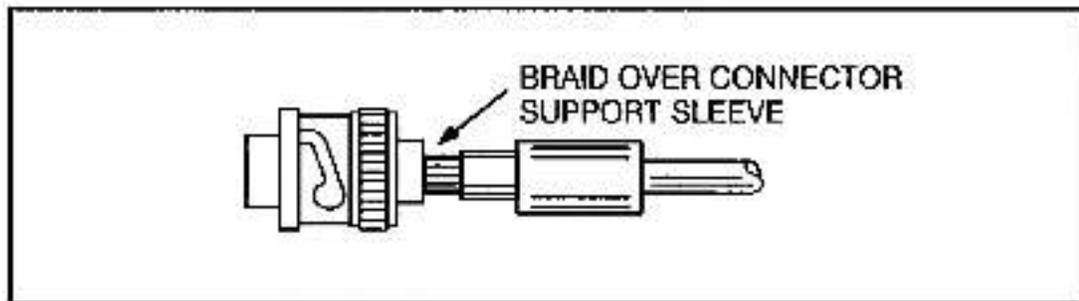

Figure 3.23 - Connector Installation Step 10 for RG-11/U Cable
- Step 10. Insert the crimped center contact into the connector body until the cable dielectric butts against the dielectric inside the connector body. The flared braid will then fit around the support sleeve of the connector body, as shown in figure 3.23.